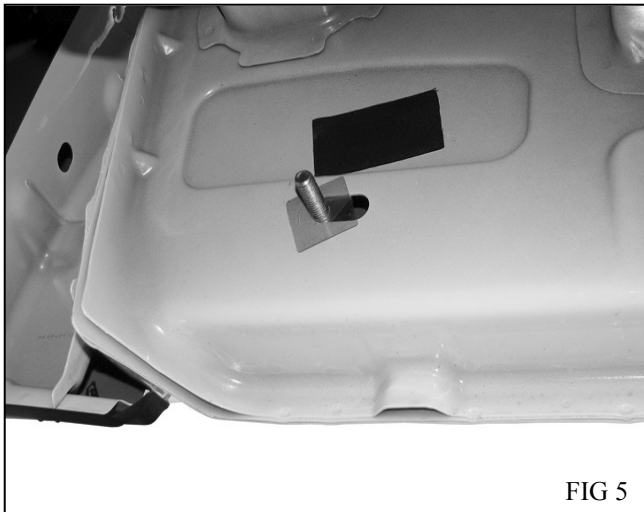

FIG 5
8. Move to the rear location and remove the tape covering the single factory hole. Take (1) M12 bolt plate and install it as described in steps 2 and 3. Select the drivers side rear mounting bracket position it onto the installed bolt plate secure it with (1) M12 flat washer, (1) M12 lock washer and, (1) M12 hex nut, push the bracket up against the body panel while tightening. (Fig 5, Fig 6)